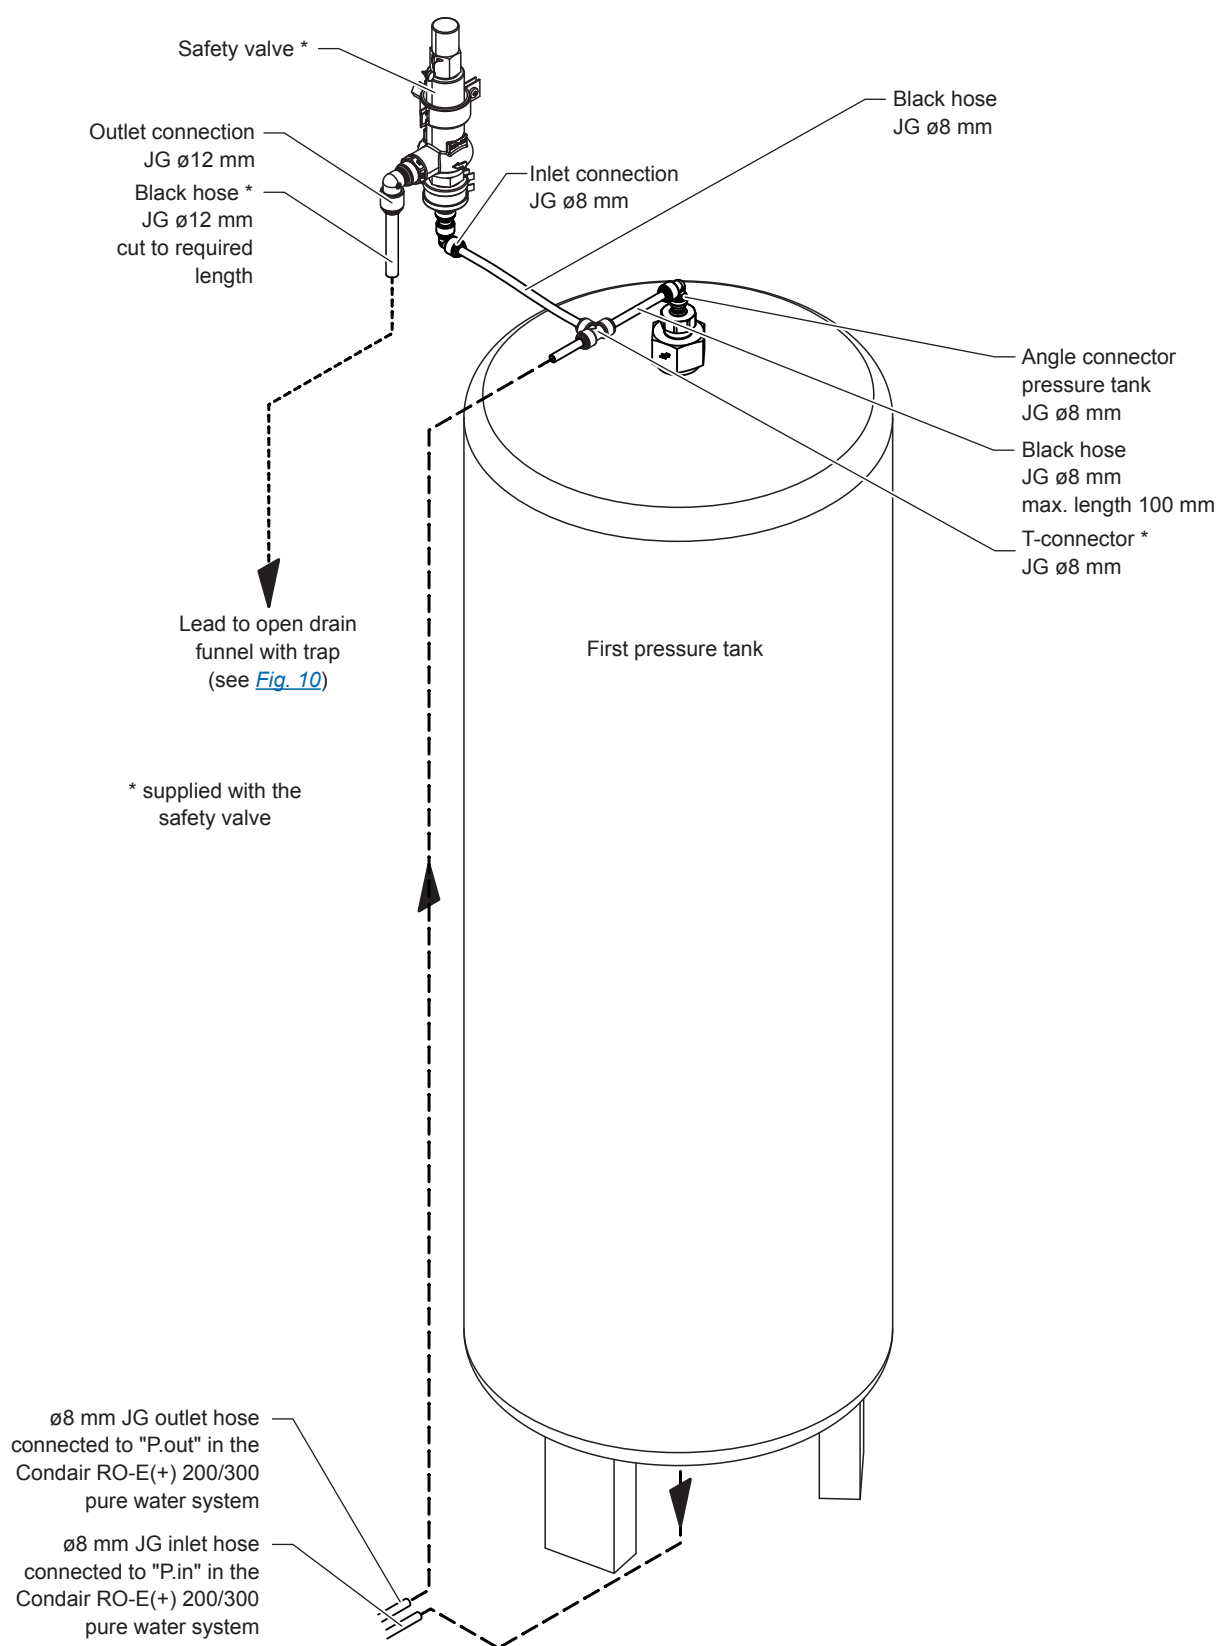

Fig. 16: Connecting the pressure tank safety valve to the Condair RO-E(+) 200/300 pure water systems
2. Connect the open hose ends of the cut hose to the ø8 mm JG T-connector as shown in Fig. 16.